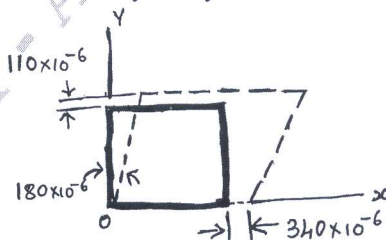

Fig.Q4(a)
- 4 a. $\epsilon_x = 340 \mu$, $\epsilon_y = 110 \mu$ and $\gamma_{xy} = 180 \mu$. Determine the strains for $\theta = 30^\circ$, Principal strains and their planes, maximum shear strain by analytical method. [Refer Fig.Q4(a)]